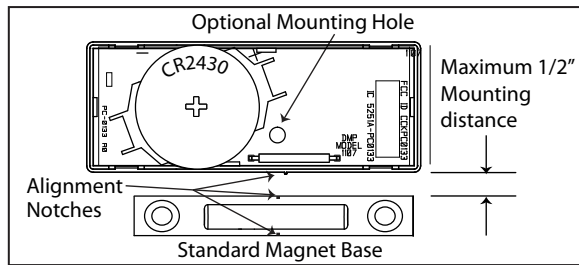

Figure 5: Transmitter and Standard Magnet
4. When using the standard magnet, place the magnet base on the surface nearest to the internal reed switch location aligning the location notches in the transmitter and magnet base (see Figure 5), and use the provided #4 flat head screws to secure the magnet base in place. Snap the magnet into the standard housing, then snap the housing onto the base.